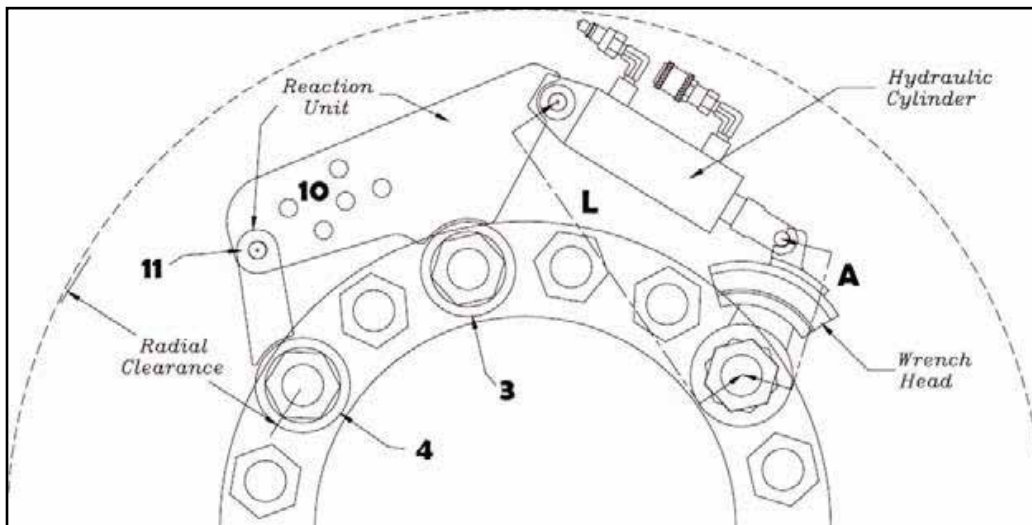

Figure 7
5. Measure the distance (A) of the wrench arm. This distance is 4" on a Series 150-4 (Figure 7).